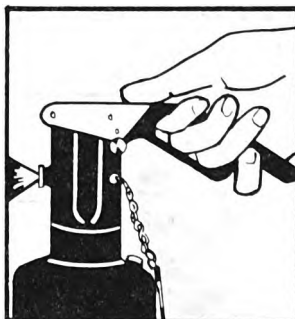

Figure 3.
c. Pull up on the charging handle, point the apparatus at the object to be decontaminated, hold it 6 to 8 inches away, and depress the thumb lever (figure 3).